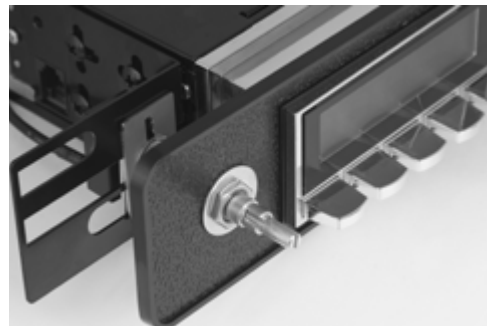

Figure 4 - Install Vehicle Specific Faceplate
1. Use the supplied nuts and washers to align the faceplate onto the shaft. (NOTE: For illustration purposes, a faceplate is shown below in Figure 4. Bezels do not require this step.)
2. Once the shafts are lined up to the shaft openings on your vehicle-specific faceplate, use a nut and washer to hold the faceplate in place on the shafts. The "Model Two" face should be flush with the opening of the bezel or faceplate (see "Figure 4 - Install Vehicle Specific Faceplate").